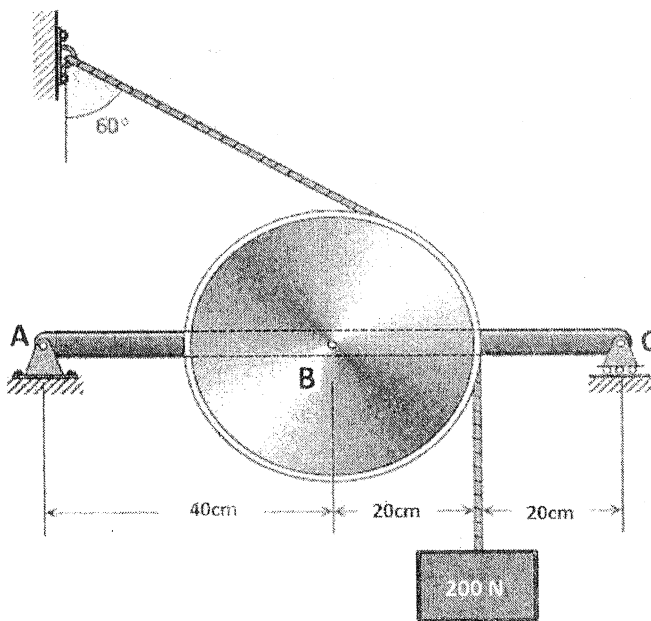

Figure Q1(d)
- d) A pulley of 40cm in diameter and supporting a load of 200N is mounted at B on a horizontal beam as shown in Figure Q1 (d). The beam is supported by a hinge at A and rollers at C. Neglecting the weight of the beam, determine the reactions at A and C. [3.0 Marks]